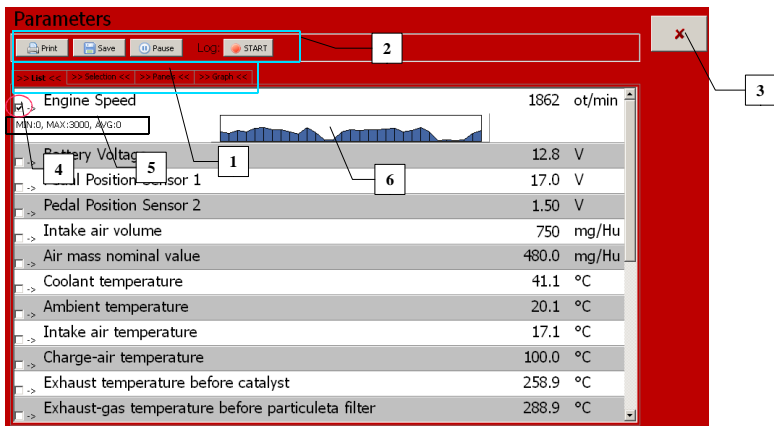

Figure 5.11
You can browse measured parameters in this menu (Figure 5.11). For example, in engine control unit you can find battery voltage, vehicle speed, intake air temperature, rpm, throttle etc. For detailed information on particular items see service manual of the diagnosed device.
Using this function you can see all parameters supported by the control unit (Figure 5.11). To scroll the window up or down, press the arrows on the right next to the scrollbar. A simple graph (6) and a minimal, maximal and average value (5) appears after checking a checkbox (4) next to any parameter. You can save the list using the Save or Start buttons in the bar above the parameters (2), or a Print button to print it, or a Pause button to pause it. The difference between saving the parameters using Save or Start icon is: